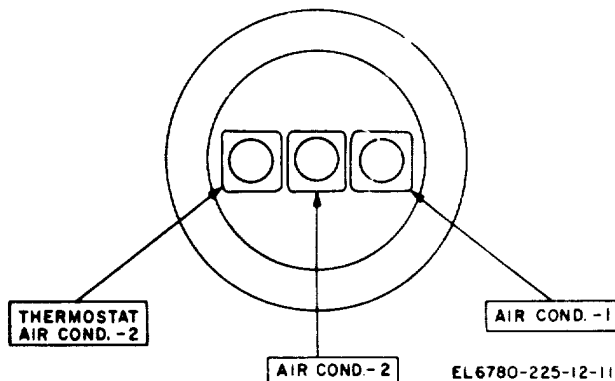

Figure 2-2. Air-conditioners interconnection diagram.
**Interconnect the air conditioners as shown in figure 2-2 before applying power to the darkroom.**